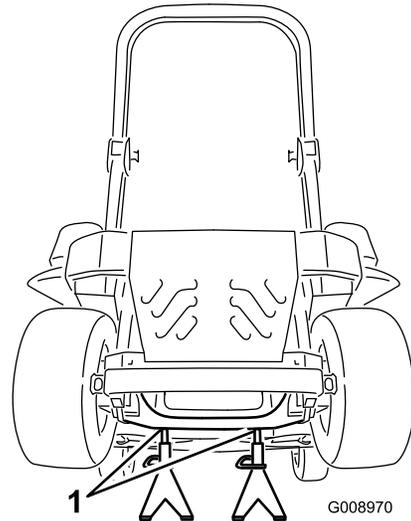

Figure 104
3. Raise the machine and support it with jack stands (Figure 104).
- Remove the jack stands and lower the machine (Figure 104).